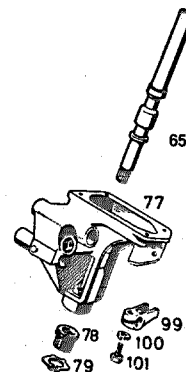

Fig. 26 — 3/2
3. Put the shift lever at the steering wheel in neutral, loosen the clamp screw at the selector lever (6), pull the selector lever (6)
forward in the direction of travel, and press the relay lever (13) down. This engages the third gear (see Fig. 26 — 3/1).